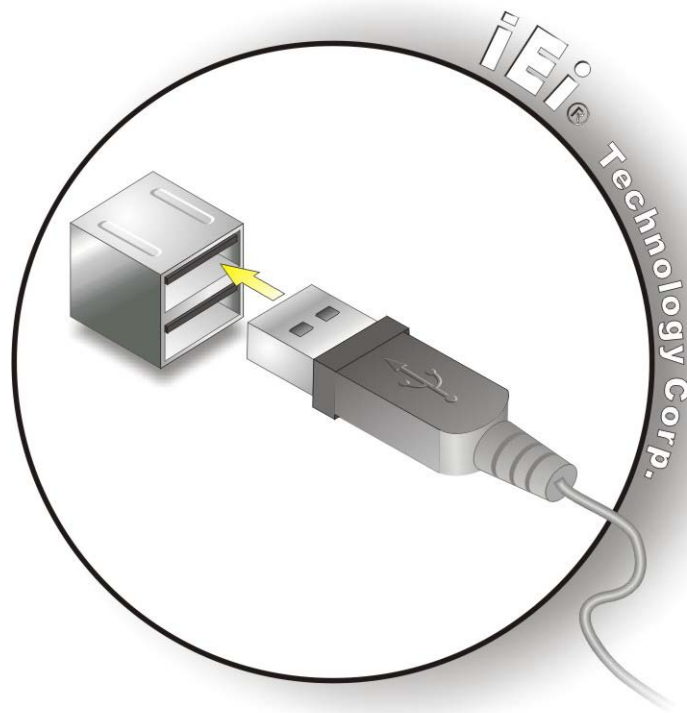

Figure 4-14: USB Connector
Step 2: Insert a USB Series "A" plug. Insert the USB Series "A" plug of a device into the USB Series "A" receptacle on the external peripheral interface. See **Figure 4-14**.